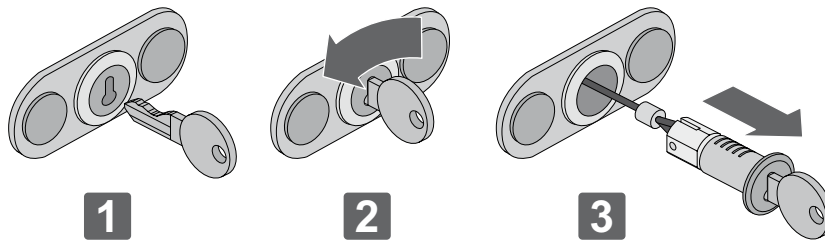

Fig. 3
- **ASB1 external cord release with key (fig. 3):**
- turn the key 90° in an anti-clockwise direction;